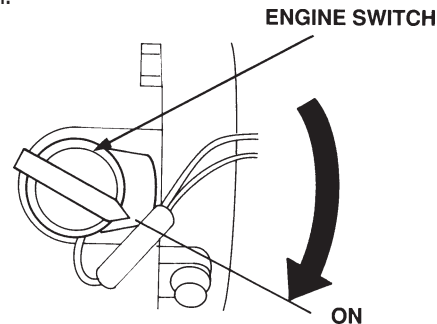

Figure 16. Engine ON/OFF Switch (ON Position)
5. Place the **engine ON/OFF switch** (Figure 16) in the "**ON**" position.